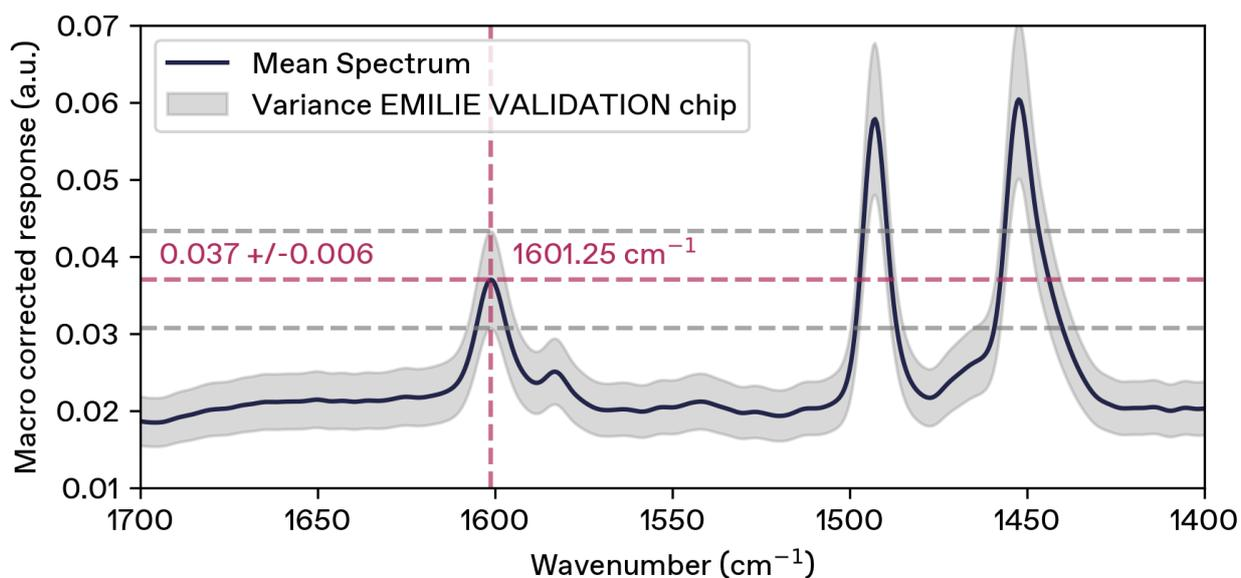

Figure 1: NEMS-FTIR spectra of an EMILIE™ VALIDATION chip after application of the "EMILIE-Validation-Macro-V1.mtx".
4. Verify that the polystyrene peak of the processed validation spectra at 1601.25 cm^{-1} falls within the range highlighted in Figure 1.